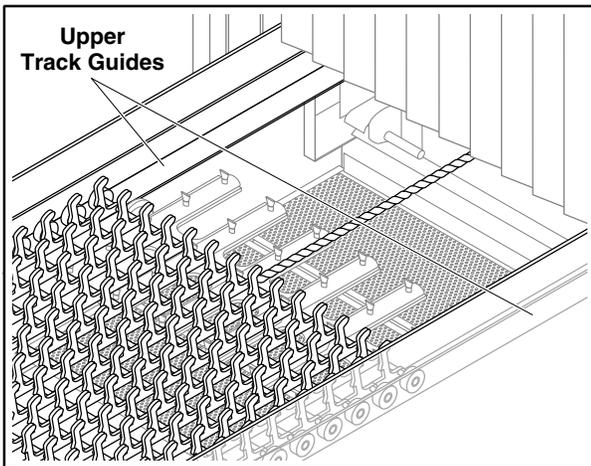

Figure 11: Upper Track Guides
8. Fasten the rope to the center of the first lower belt connecting rod (Figure 11).